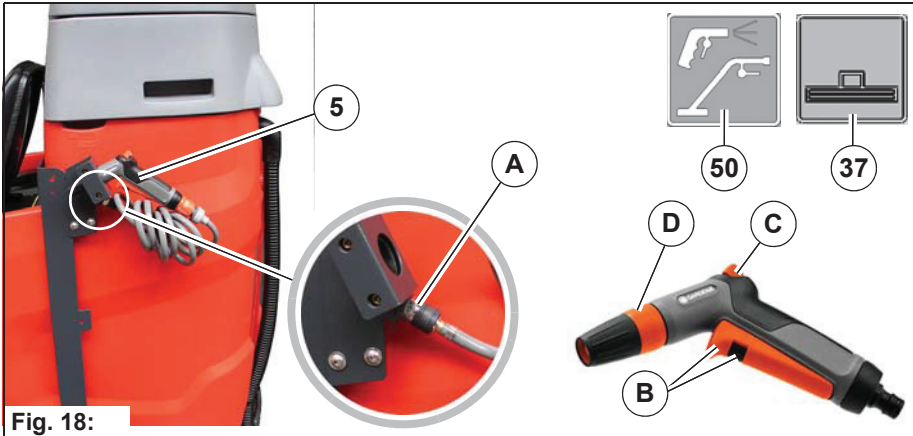

Fig. 18:
1. Connect the hose to the water connection of the machine **Fig. 18-A**.